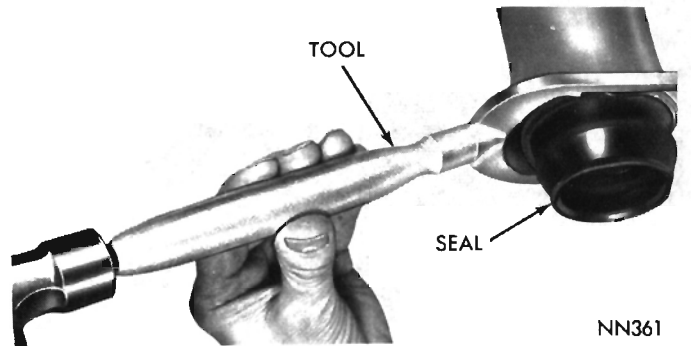

Fig. 29—Removing Extension Housing Yoke Seal
(2) Remove the extension housing yoke seal (Fig. 29) with Tool C-3994 or C-3985.